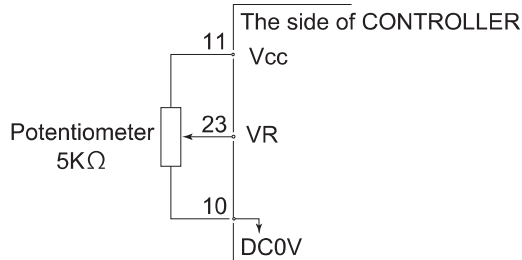
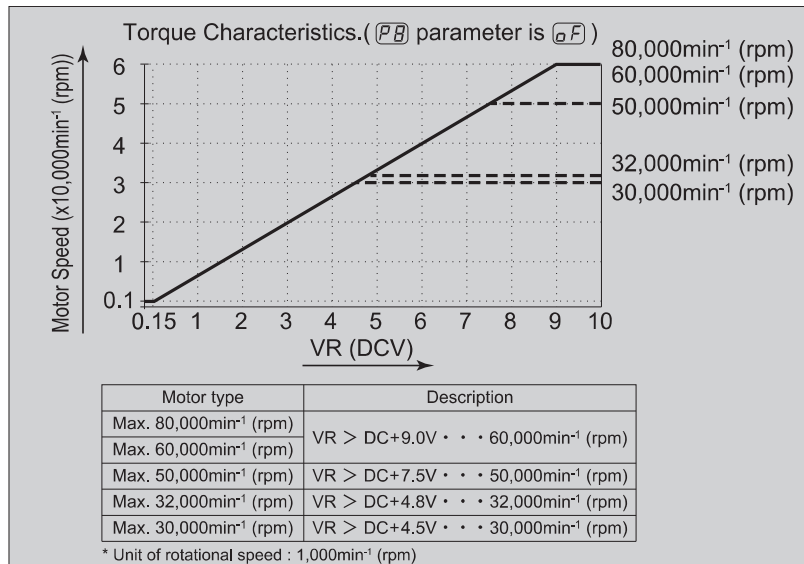

Fig. 34
Fig. 36
④ Motor Speed Control Signal
Rotation Speed can be selected by, applying analog voltage to the " Motor Speed Control Voltage (VR) " Refer to Fig. 34, 35 for connections. Refer to Fig. 36, 37 for the relationship between Motor Speed and " Motor Speed Control Voltage (VR) ".